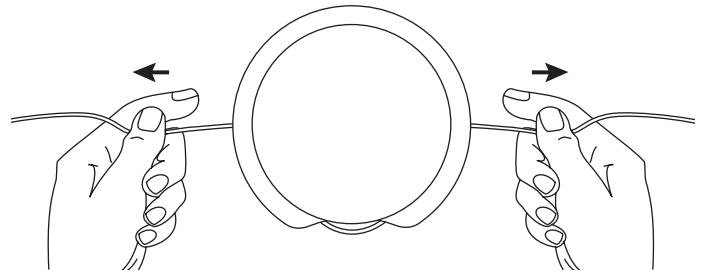

Fig. 20
3. Pull the ends through making sure that the ends are of equal length and the middle of the line is centered between the insertion holes (Fig. 20).